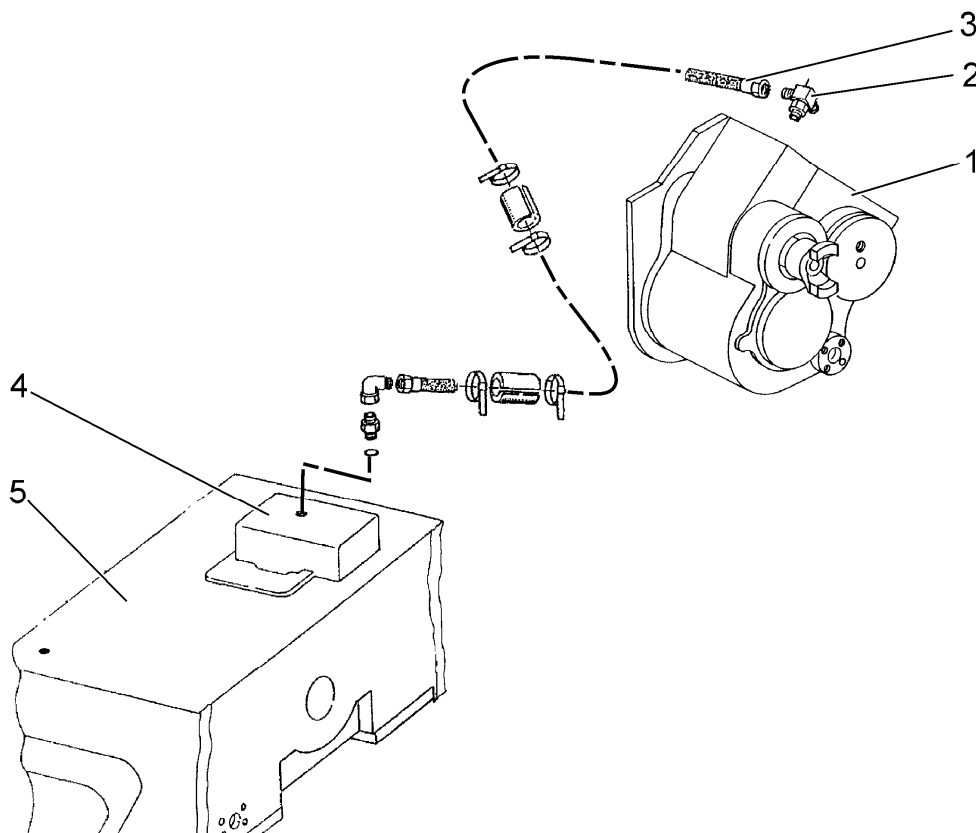

Fig. 7.10. Steering System Supply Pressure Test
1. If main pressure M, supplying the steering valve, is low, disconnect supply hose (3, Fig. 7.10) from the pressure regulator valve and plug the tee (2), to ensure that the M pressure is not connected to any leakage in the steering system.
4. Remove plug from the tee (2) and reconnect supply hose (3) to the pressure regulator valve.